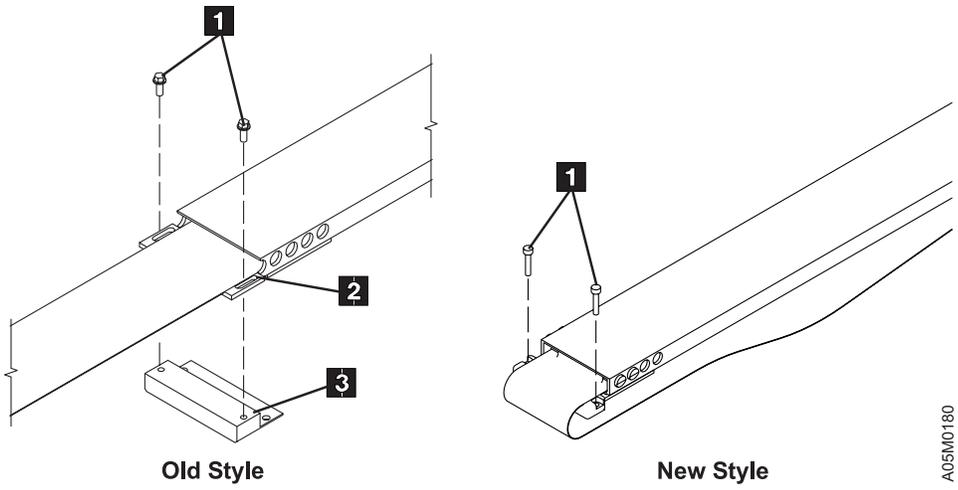

Figure 39. Cable Mounting (Old and New Style)
- a. Refer to Figure 39 on page 98 and Figure 40 on page 99 to determine if you have the **OLD** or **NEW** style track cable.